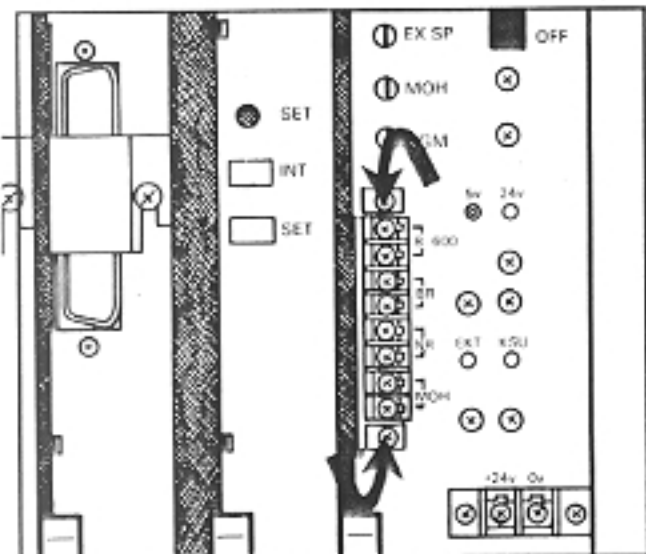

FIGURE 47—MTOU CONNECTION STRIP
11.01 All connections to miscellaneous equipment are made via the barrier strip mounted on the front of the MTOU PCB, as shown in Figure 47.